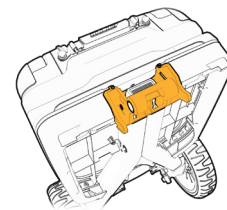

Figure 56
2. Bring the two parts together. Use the hanging hooks (see Figure 56) to align the two ends properly. At this point the central release button will click.